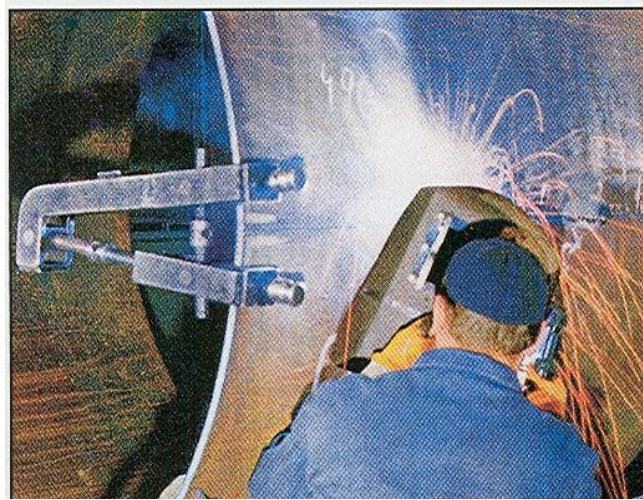

Figure 1. Mechanical Jig for clamping / adjusting the sheet's ends
- a. clamping the shell's ends tight and adjust the distance (see Figure 1);